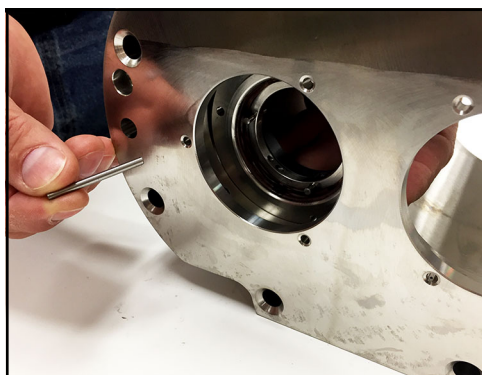

Figure 80 - Use drift pin to align holes
12. On the back side of the body, use an appropriately-sized drift pin to align the holes in the seal carrier with the holes in the body as shown in Figure 80.